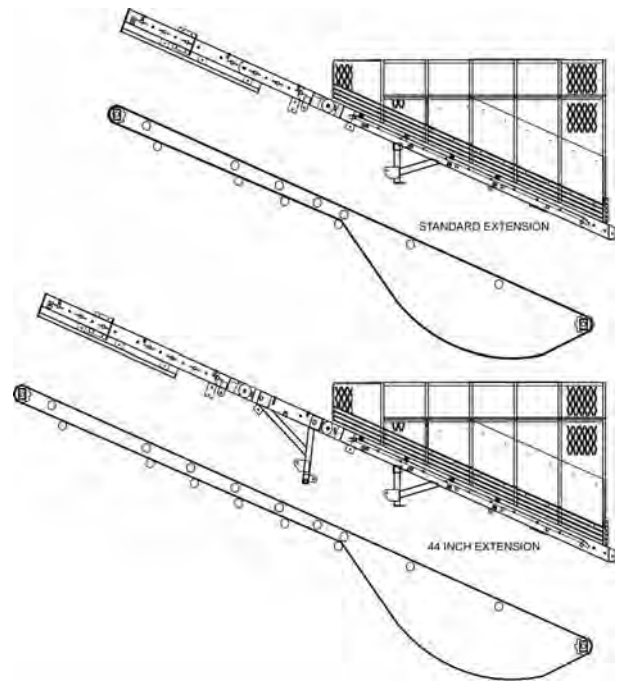

Figure 99 - Draper Chain Routing
12. Install draper chain in the tank and boom. Make sure lap is proper direction (top surface trailing). See Figure 99.